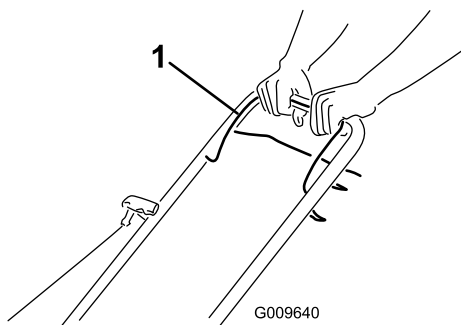

Figure 10
1. Hold the blade control bar (Figure 10) against the handle.